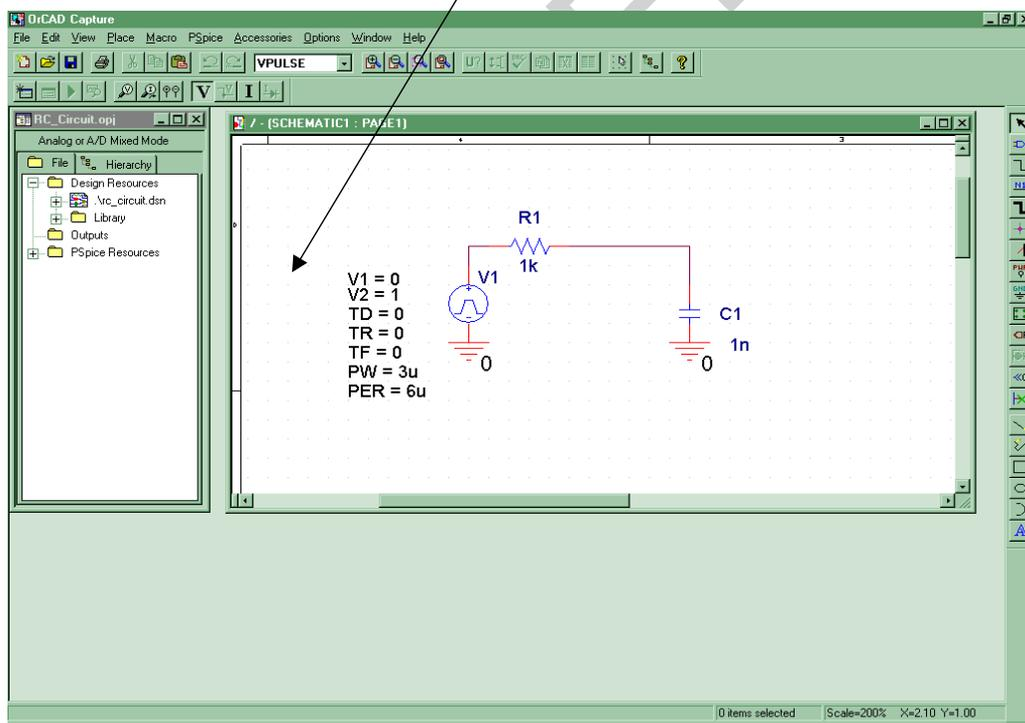

Fig:1
To start with, build the circuit that is illustrated in **Figure 1**. To do this start a new project called RC\_Circuit. In so doing, put this project in the subfolder of the temp your desired directory and call it RC\_Circuit also. A new factor here is the placing of a capacitor; yet, it works just like the process of placing a resistor. Another new factor is the use of the VPULSE voltage source. How do you place such a part?
- **GO Place→Part** and select the SOURCE library in the dialogue box. Then type in VPULSE as the type of source desired. This will produce a VPULSE symbol, which you can place like other components. Then you can double-click on each parameter listed with this source and fill in the values shown in **Figure: 1** **Here it is!** 😊